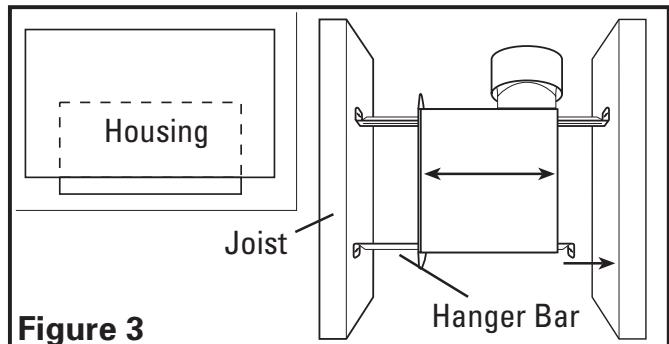
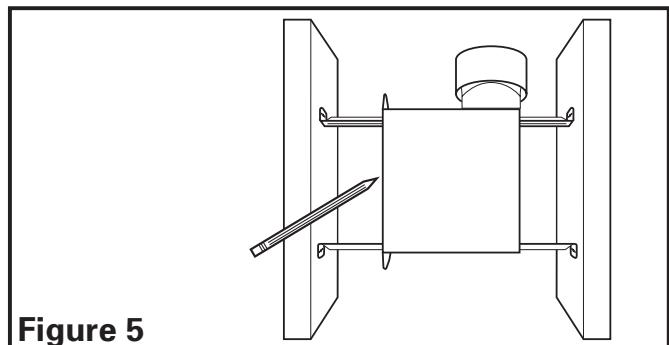

Figure 3
Figure 5
1. **Mounting Rail Installation:** Install the rails on the housing and position the housing next to the joist. Using the gauge on the fan's housing, line up housing so that it will be flush with the finished ceiling. Secure the ends of the rails with screws or nails (not included) to the joists and slide the housing into the final position (**Figure 3**).
- 1a. **Mounting Rail Installation:** Set housing in position between the joist and trace an outline onto the ceiling material (**Figure 5**). Set housing aside and cut opening, being careful not to cut or damage any electrical or other hidden utilities. Install the rails on the housing and position the housing in the previously cut hole so that it is flush with the finished ceiling. Secure the ends of the rails to the joists with nails or screws (not provided) (**Figure 3**).